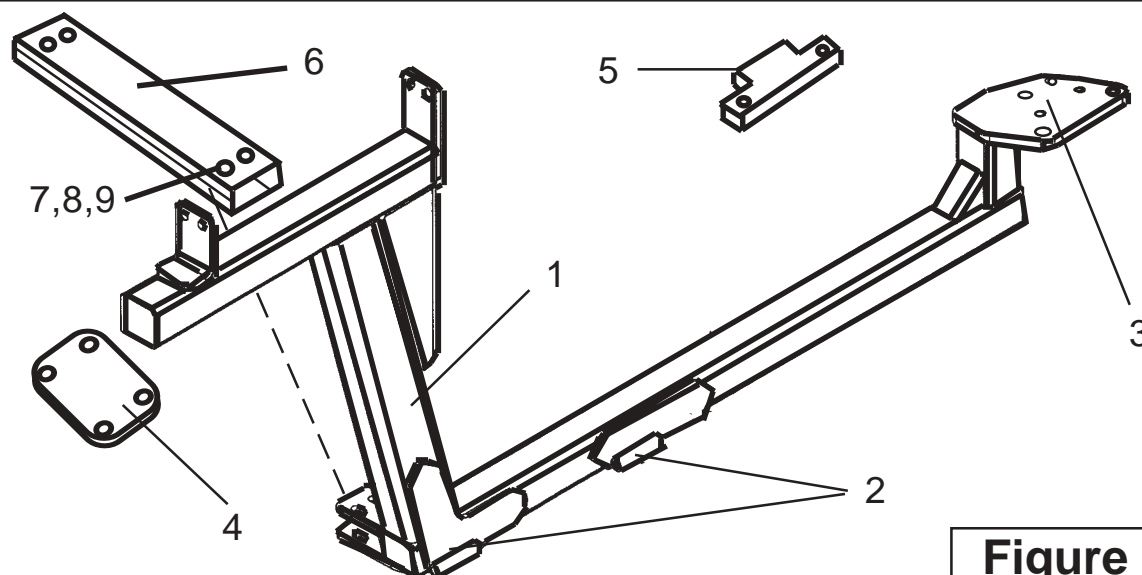

Figure 1
RH & LH Frame Rails. Shown below are example of Frame rails, There is a Right and Left Frame Rail, They will not interchange from side to side. LH must be mounted on the Left and Right on the Right. To ID which is which, the easiest way is to look for the Counter Weight Mounting Tubes (**See Figure 1 Item 2**), these are welded on to the LH Frame Rail Only. The Rail Mounting Pad (See Figure 1 Item 4) is loose and not welded to the front of the Frame Rail until final assembly. NOTE: TS100A & TS115A will not use same frame rails but will share the other frame rail components and procedures.
Frame Rail Stiffener (Crossmember Item 6). Shown below is the Frame Rail Stiffener . This mounts under the Tractor and bolts between the two Frame Rails during Assembly. The crossmember bolts in using four 3/4" bolt, use a hardened flat washer on top and bottom of bracket. (2 per bolt or 8 for all 4 bolts) (**See Figure 1**). **Changes have been made to limit the amount of welding that will be done on frame rails.**
3. Install the frame rails to the tractor. Install Support Plate (P/N 02725900) on top of Frame Rail support, one on the LH and one on the RH Side (see Figure 1, 7 & 8). Install the four retaining bolts into the support plates now, do not tighten them now only snug fit. LATER the frame rail will be welded to these support plates BUT NOT AT THIS TIME (See Figure 8)